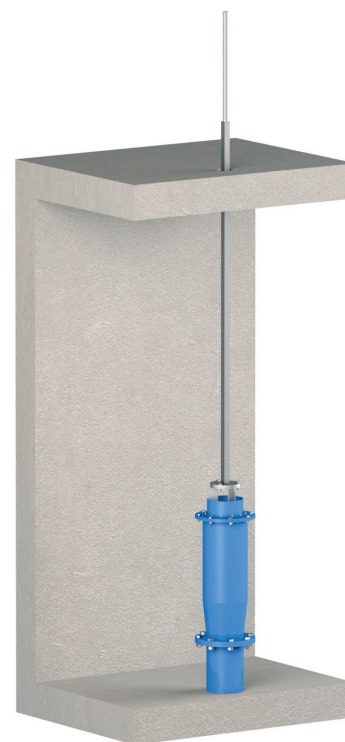

Fig. 4
- The first step will be to release the actuator system stem (7). In the case of manual actuator, either with direct wheel or with gearbox, first remove the bolted stopper (15) from the top of the stem (7).
- In order to unscrew the stem (7) from the actuator, turn the wheel (11) clockwise to release the stem (7).
- Once the stem is released (7), introduce the top section through the orifice in the roof or the bracket.
- Continue to position the bottom bushing of the stem (7) on the obturator (2) and bolt crosswise with appropriate torque (fig. 4).